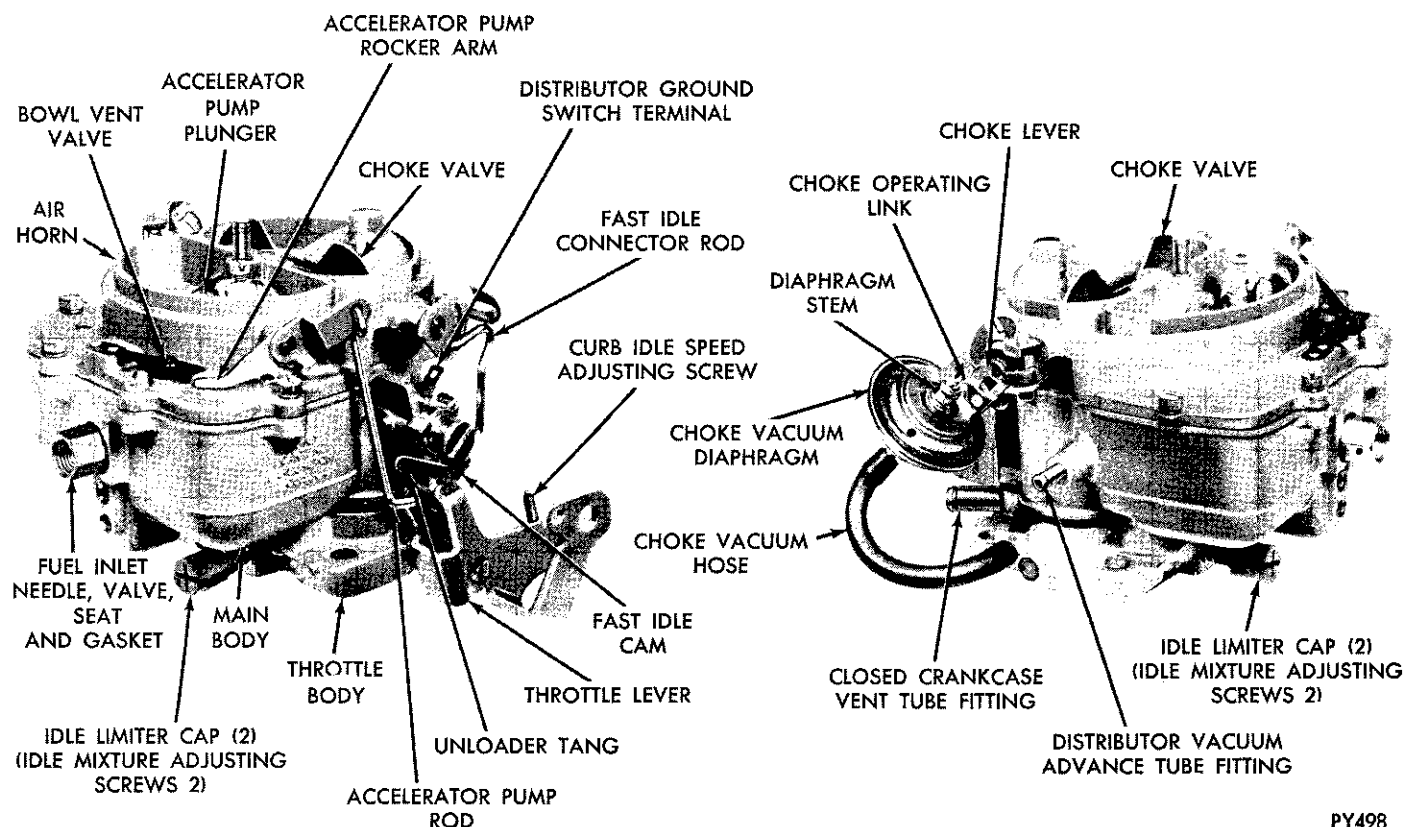
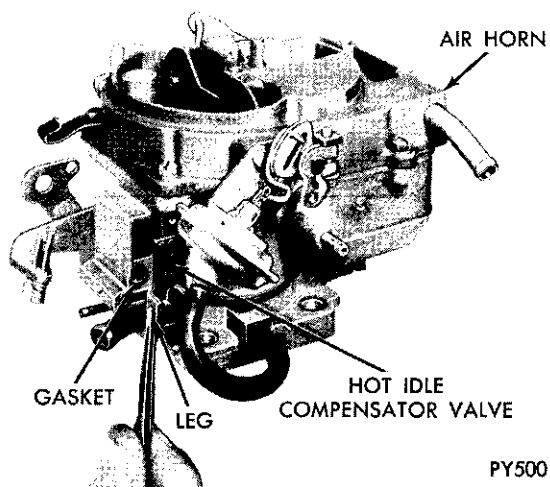

Fig. 1—Carburetor Assembly (BBD-1-1/2 inch) C.A.S.
Fig. 3—Removing or Installing Hot Idle Compensator Valve
The Ball and Ball dual throat 1-1/2 inch Carburetor Model C.A.S. (Cleaner Air System) BBD-4725S, BBD-4726S and BBD-4894S are used on the 383 cu. in. Engines when the vehicles are equipped with manual or automatic transmissions respectively (Fig. 1). BBD-4726S is used only on vehicles without air conditioning while BBD-4894S is used only on vehicles with air conditioning. This carburetor is equipped with a hot idle compensator valve, which is a thermostatically operated air bleed, to relieve an overrich condition at
DISASSEMBLING CARBURETOR (Figs. 1 or 2.)
(5) Remove clip from choke operating link and disengage link from diaphragm plunger and choke lever. (Figs. 1 or 2).
(6) Remove vacuum diaphragm and bracket assembly and place to one side, to be cleaned as a special item. **A liquid cleaner may damage the diaphragm material.**
(7) Remove screws that attach hot idle compensator valve cover to main body. Remove cover and lift out hot idle compensator valve and gasket (Fig. 3).
(8) Remove air horn retaining screws and lift air